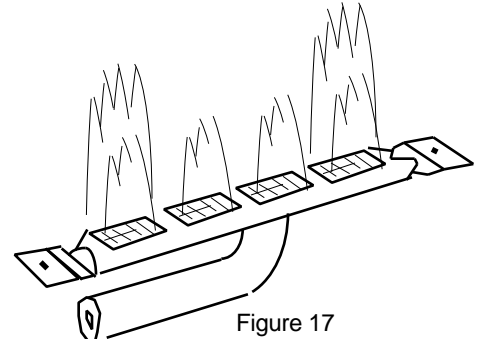

Figure 17
- A full bodied, lively flame. The flame will be blue at the base and a combination of blue and yellow at the body and tips. Figure 17.